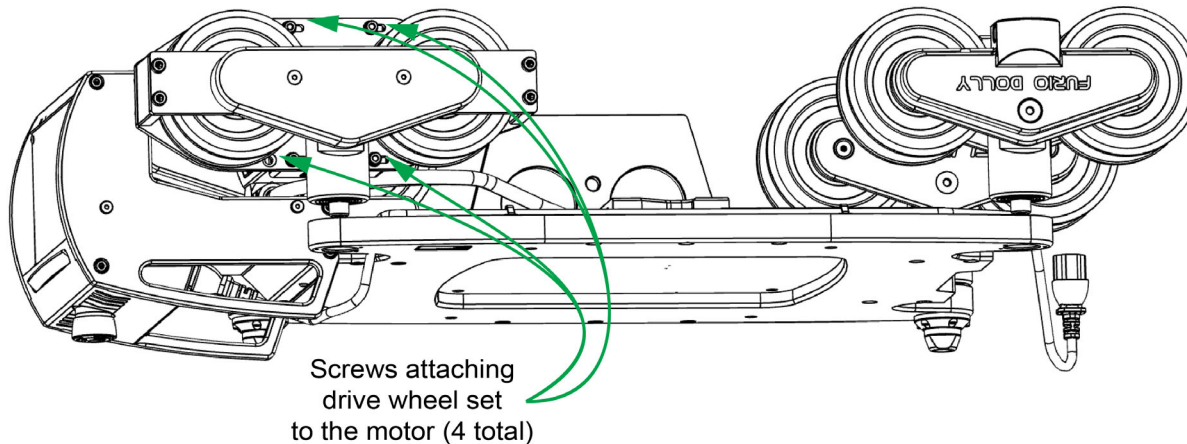

Figure 21 - Attaching Drive Wheel Set to the Motor Unit and Dolly Base
- Use the 4 mm hexagonal wrench to secure the four screws that attach the drive wheel set to the motor unit, as shown in **Figure 21**.